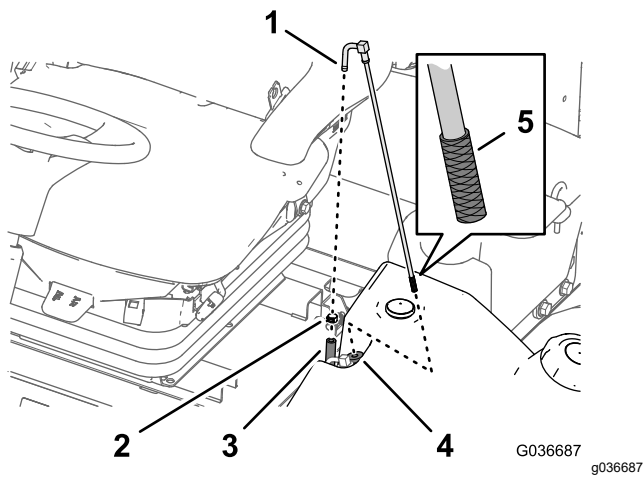

Figure 90
1. Remove the hose clamp that secures the fuel supply hose to the fitting of the fuel-pickup tube (Figure 90).
2. Separate the hose from the fitting (Figure 90).
3. Lift the fuel-pickup tube from the fuel tank (Figure 90).
4. Clean any debris from the screen at the end of the fuel-pickup tube (Figure 90).
5. Insert the fuel-pickup tube through the rubber bushing and into the tank (Figure 90).